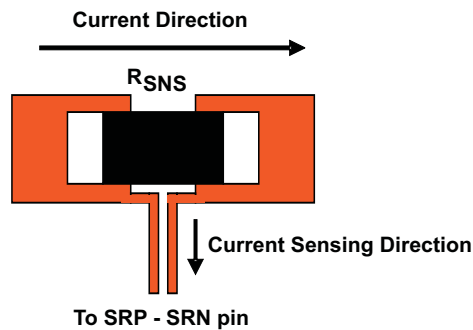

Figure 19. Sensing Resistor PCB Layout
4. The charging current sensing resistor should be placed right next to the inductor output. Route the sense leads connected across the sensing resistor back to the IC in same layer, close to each other (minimize loop area) and do not route the sense leads through a high-current path (see Figure 19 for Kelvin connection for best current accuracy). Place decoupling capacitor on these traces next to the IC.